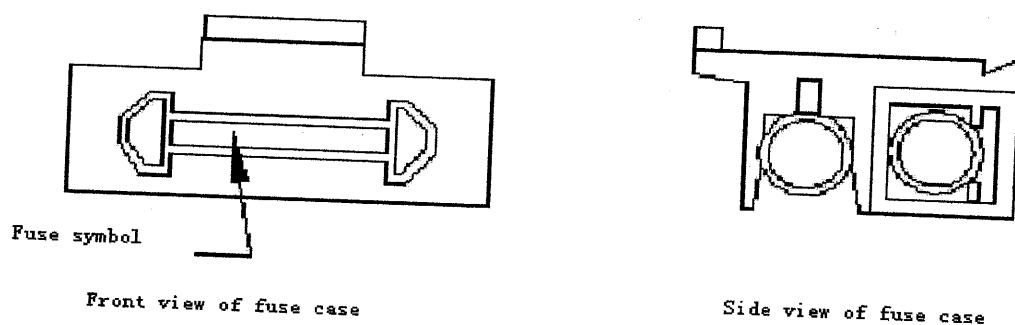
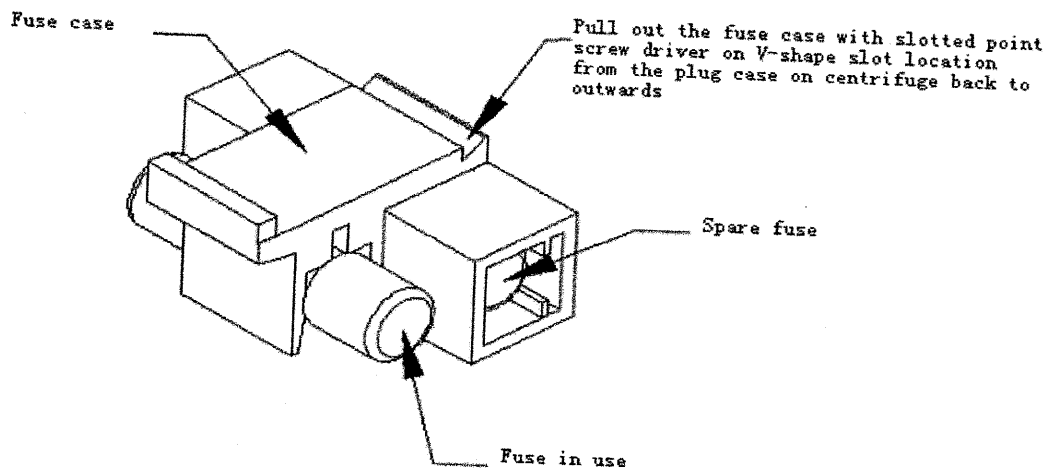

Figure 4
Figure 5
- (1) Cut off the power, and unplug the plug the power cord connected with the external electric supply socket. Then draw another end of the power cord connected with the centrifuge.
- (2) There is a fuse case equipped on the under part of electric outlet on instrument back. (See figure 4) There is a marking for fuse symbol, and find the V-shape slot on fuse case. (See figure 5) Pull out the fuse case with slotted point screw driver into the V-shape slot.
- (3) Take out the damaged fuse and replace it. The model of fuse of the centrifuge is BGXP 5×20 、250V 5A.
- (4) Put the fuse case into electric outlet.